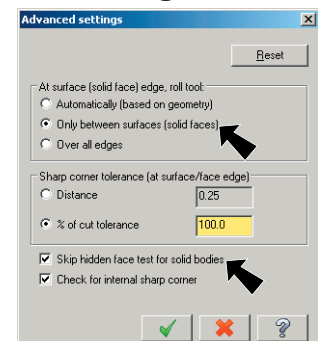

Fig. 93
Step 33. Select **Only between surfaces**, Fig. 93.